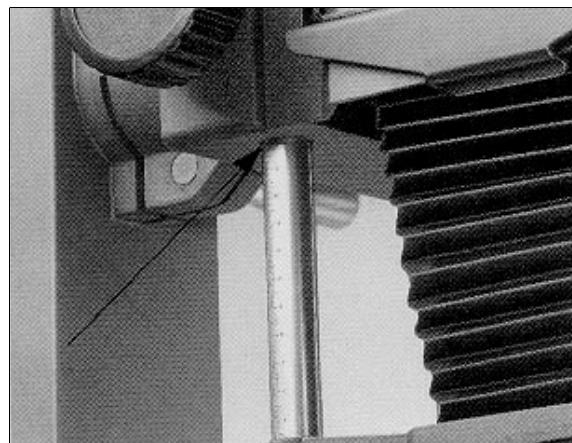

Figure 3-30. Bellows Scale
**Bellows Scale:** The scale on the left focusing column represents the bellows extension, when it is read at the point indicated in figure 3-30.